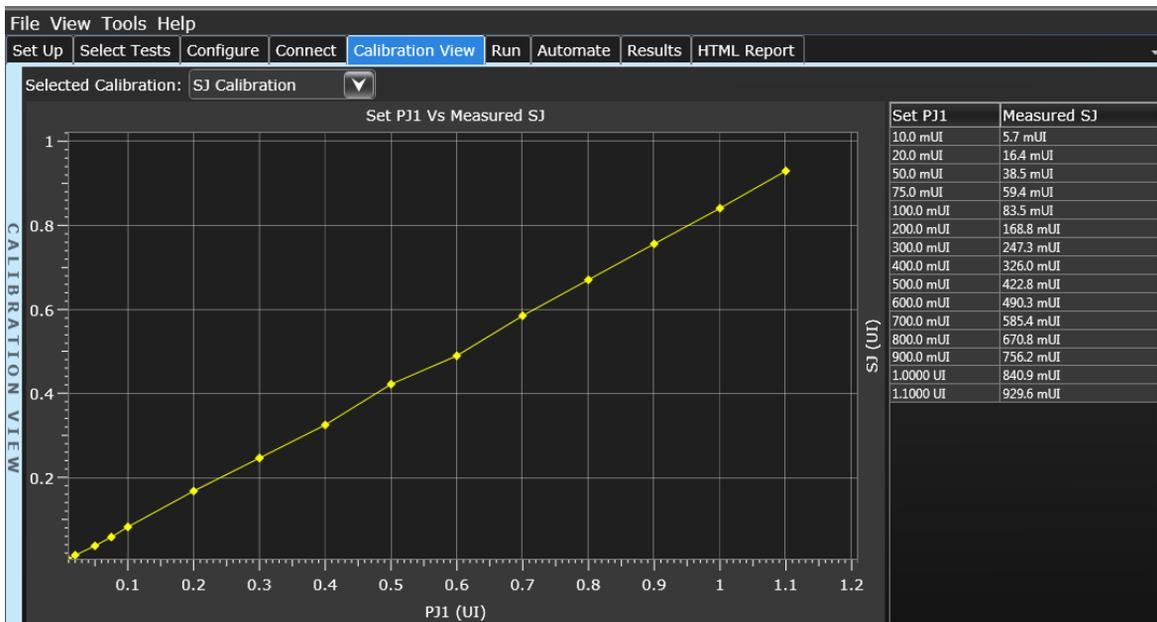

Figure 75 SJ Calibration calibrated data in Calibration View tab
- measured SJ versus the set PJ1 in graphical and tabular formats in the Calibration View tab (Figure 75)